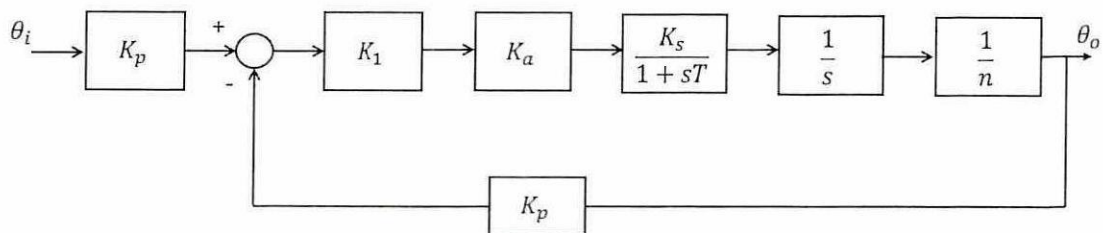

Figure Q2.1: Block diagram
- (a) Using the above values and **Figure Q2.1**, solve $\frac{\theta_o}{\theta_i}$. (8 marks)